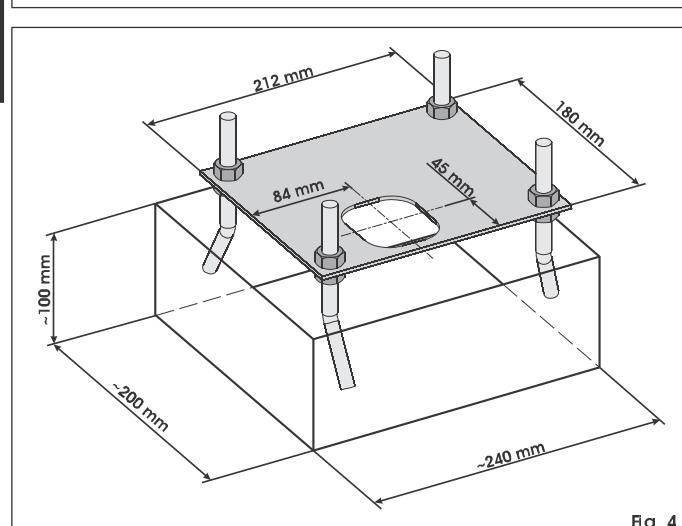
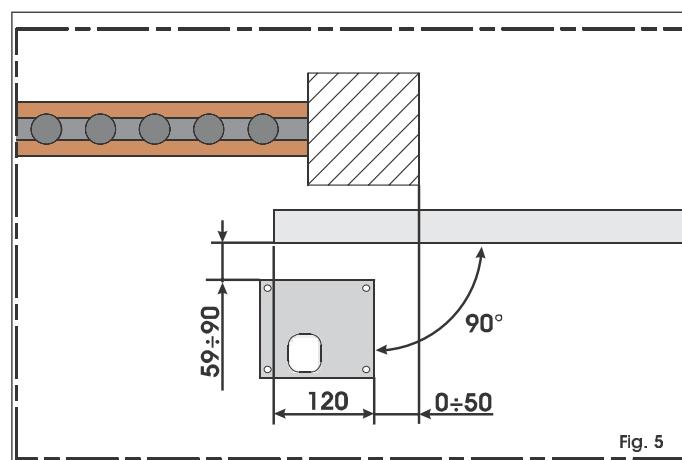
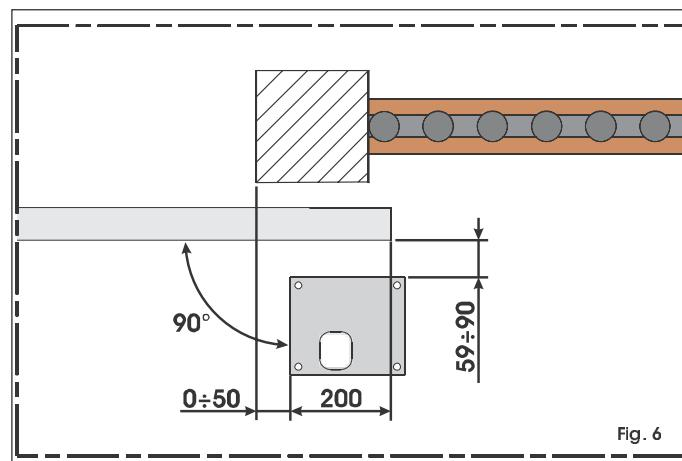

Fig. 4
Fig. 5
Fig. 6
2. Dig a cavity for the foundation plate as shown in Fig. 4. The foundation plate must be located as shown in Fig. 5 (right closing) or Fig. 6 (left closing) to ensure correct meshing between rack and pinion.
**2) The operator is supplied for installation with the gate closing on the right of the operator (looking from the inside) (fig. 5). If you require left-hand closure, change over the connection of the cables connected to the terminals of the motor.**